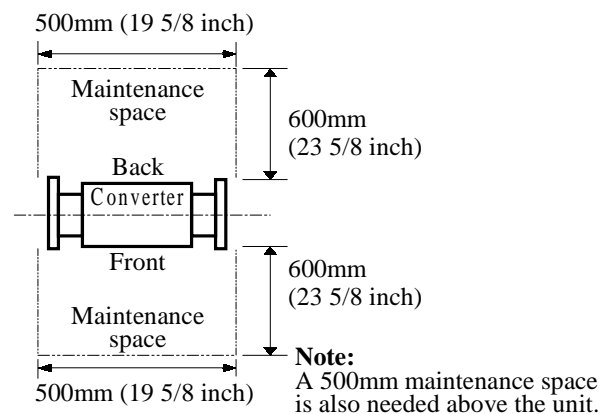

Figure 4. Clearance space
- (1) Install the LQ300 in an environment free from vibration and corrosive gases and in a place allowing easy on-site maintenance.
- (2) Provide a clearance space to the front, rear, and above side of the unit. See Figure 4 below.
- (3) Provide a sunshade for the unit if direct sunlight is unavoidable when installing outdoors.
- (4) This unit cannot be installed in an environment where there is a possibility that flammable or explosive gases may leak.